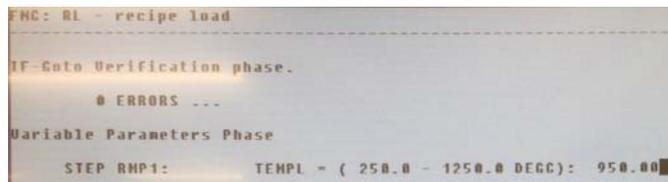

Figure 8: Enter first zone temperature
- 9.3.5. The computer will prompt you to enter some process parameters (time and temperature for Bank 1 and only time for Bank 2) if needed (Fig. 8). Input values of the previous run will be displayed for your reference. Enter your value with the same format (number.00). For Bank 2 go directly to step 9.3.7. Press ENTER after typing each process variable value. You will be asked to enter the temperature variable for the Center, Flat and Source zone of the furnace (Fig. 8, 9, 10). Usually the same number is entered for all the three zones.